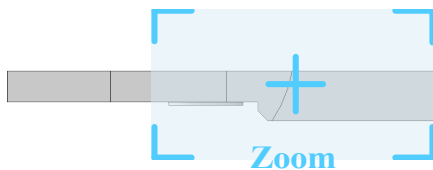

Fig. 68
Step 3. Zoom in on front, **Fig. 68**.